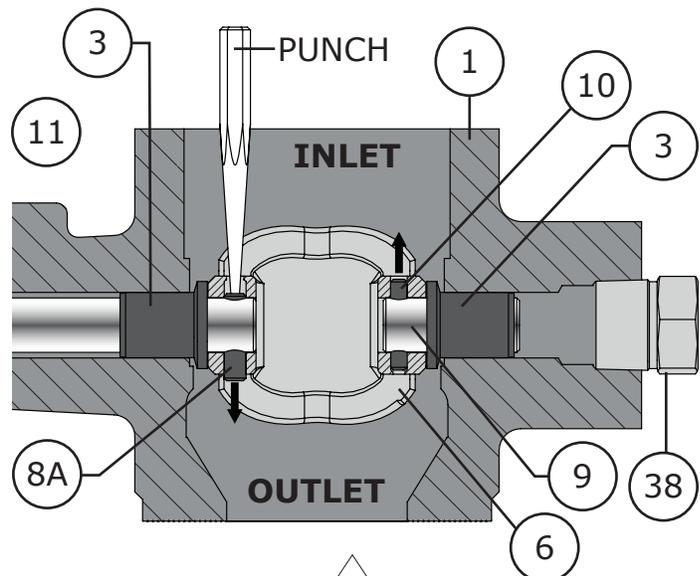

Figure 15 2 Inch Valve Pin Removal
NOTE: 1 to 2 inch valves use pins (Keys 8A and 10) to connect the shafts (Keys 11 & 9) to the ball (Key 6). These shaft connector pins can only be driven out from one end of the shaft connection (through the smaller hole out the larger hole). It will help to locate stake marks on the ear of the ball, pins will be driven out from the opposite hole to the stake marks. Refer to Figure 15.
- 5 Using a punch, carefully drive the follower shaft pin (Key 10) out of the ball (Key 6) / follower shaft (Key 9) connection. **NOTE:** For 2 inch valves, rotate the ball (Key 6) 180 degrees, pins are installed from opposite sides of each other as shown in Figure 15.